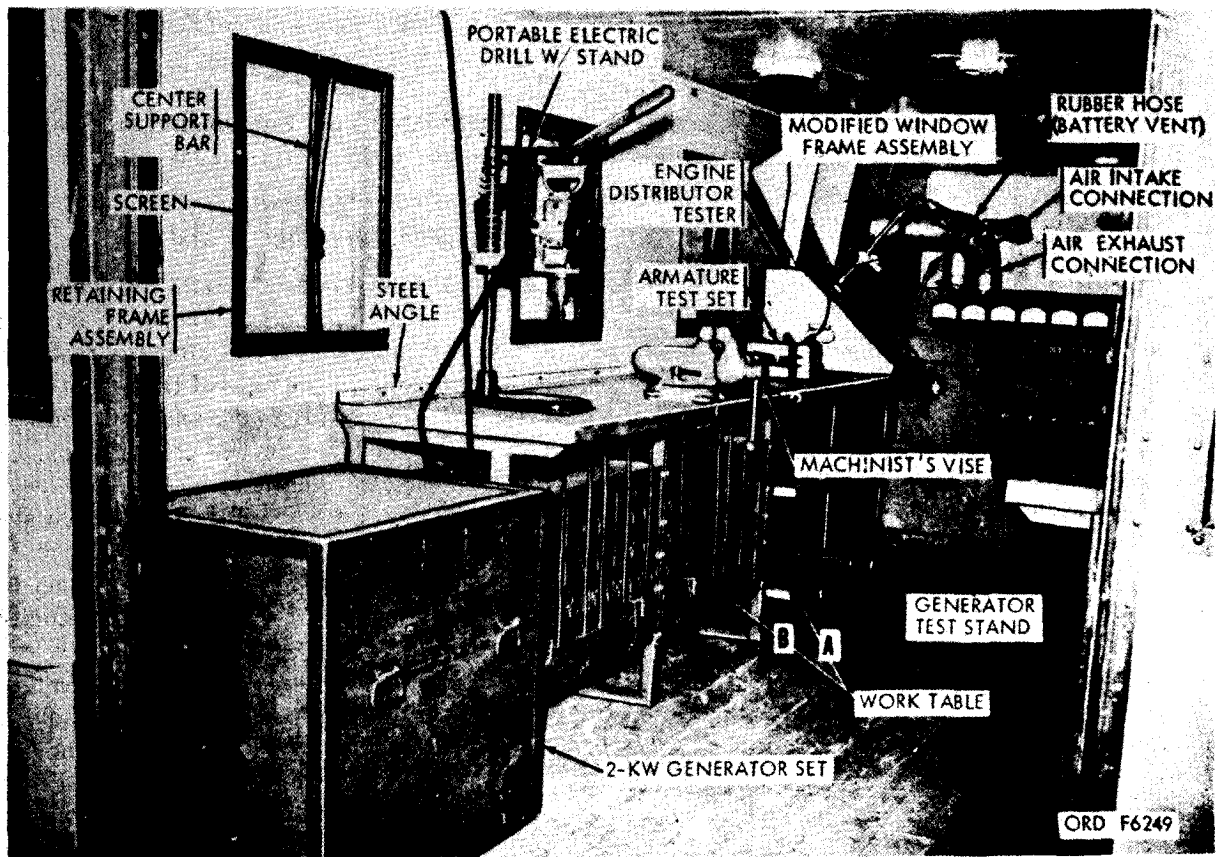
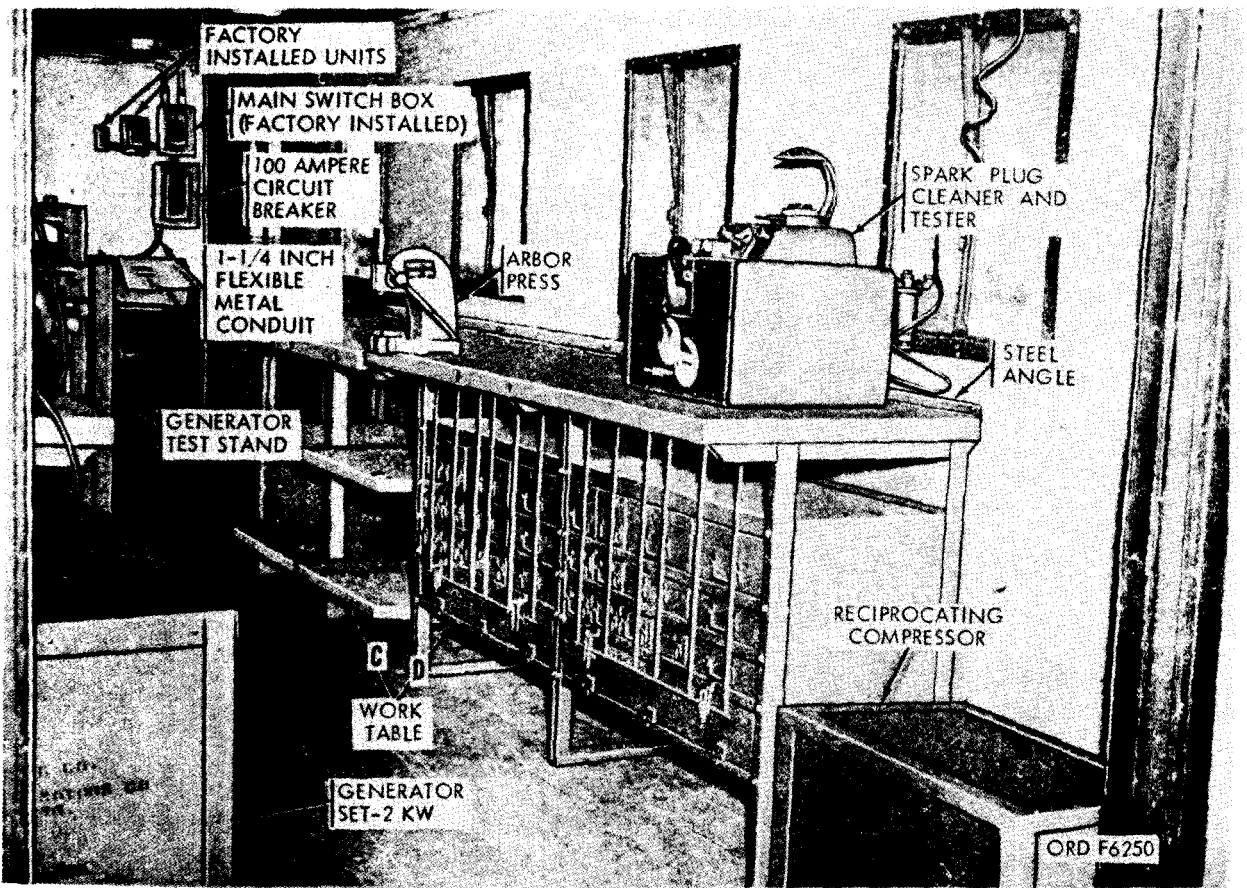

Figure 1. Equipment installed in shop-van semitrailer - front and left side view.
Figure 2. Equipment installed in shop-ran semitrailer - front and right side view.
Volts Power Circuit. *a.* Installation of the 100 Ampere Circuit Breaker 5925-242-2266 (figs. 2 and 3).
b. Installation of the 4-Wire 100 Ampere Electrical Receptacle Connector 5935-642-1694 (figs. 2 and 3).
- (1) Disconnect the two wires of the 2-wire 110 volt electrical receptacle connector (located on the outside wall of the trailer) from the top terminals in the main switch box. Remove and discard the wires and the 2-wire 110 volt electrical receptacle connector.
- (2) Cut three pieces of No. 4 AWG electrical wire 6145-635-0047 and one piece of No. 6 AWG electrical wire 6145-299-4398 each 80 inches long. Strip ½-inch of insulation from both ends of each wire. Solder one end of the No. 6 AWG electrical wire to the pole of the 4-wire 100 ampere electrical receptacle connector 5935-642-1694 marked "ground". Solder one end of each No. 4 AWG electrical wire to each one of the three remaining poles.
- (3) Install the 4-wire 100 ampere electrical receptacle connector in the place previously occupied by the 2-wire 110 volt electrical receptacle connector, (1) above. Work the four wires of the receptacle connector up between the inside and outside walls of the trailer and through the 1½-inch hole drilled in the inside wall, *a(3)* above, and into the box of the 100 ampere circuit breaker.
- (4) Connect the three No. 4 AWG electri-
- (1) *Mounting (figs. 1 and 2).*
(a) Unscrew the 18 screws from the retaining frame assembly and remove the retaining frame assembly and screen (fig. 1) from the front left hand trailer window (next to the test stand). Save the screen and discard the retaining frame assembly and screws.
(c) Lay the window frame assembly down flat on a bench or table and unscrew the 23 screws from the inside frame and remove the inside frame from the outside frame (fig. 5). Remove the two rivets from the center support bar (fig. 1) and remove it from the outside frame. Discard the center support bar and rivets.
- (k) Use two 6-inch elbows 4520-272-8661 on the exhaust connection (fig. 1) and one 6-inch elbow on the air intake connection (fig. 1). Cut the two 24-inch lengths of heating pipe 4520-273-1243 as required to effect a properly alined connection from the test stand to the modified window frame assembly (fig. 1). Fabricate the smooth end of each pipe by cutting the end in segments and bending every other segment over forming ears as shown in figure 6. Assemble the heating pipes and elbows on the test stand and in the window frame assembly. Drill a $\frac{5}{64}$ -hole in four ears of the pipe to match with the holes in the window adapter plate (fig. 6). Secure each pipe to the window adapter plate with four No. 2-32 x $\frac{1}{4}$ -inch pan head thread forming tapping screws 5305-012-7847.
Install one end of the rubber hose (fig. 1) on the battery vent outlet in the top of the test stand and the other end on the pipe nipple in the window adapter plate (fig. 5). Slide each hose clamp in place and tighten securely.
(a) Connect a 10 foot length of 1¼-inch flexible metal conduit 5975-178-1225 (figs. 2 and 3) to the box of the 100 ampere circuit breaker (figs. 2 and 3) using the 1¼-inch electrical box connector 5975-280-7196 previously installed (par. 3a(2)).
b. *Work Tables 4910-543-7771 and 4910-543-7772* (figs. 1 and 2).
- (1) There are four work tables to be installed in the shop-van semitrailer. Two work tables 4910-543-7772 are designated as A and C, and two work tables 4910-543-7771 are designated as B and D to clarify locating and subsequent mounting of equipment.
- (2) Place work table (B) against the left wall and 38 inches from rear of trailer. Place work table (D) against the right wall and 31 inches from the rear of the trailer. Place work table (A) against the left wall and flush against the right end of work table (B). Place work table (C) against the right wall and flush against the left end of work table (D). Using the mounting holes in the table legs as template, mark and drill six $\frac{3}{8}$ -inch holes through the trailer floor for each table. Secure each table to the floor with six $\frac{5}{16}$ -18 x 2-inch hexagon head machine bolts 5306-208-1559, six $\frac{7}{16}$ -inch inside diameter rectangular flat washers 5310-209-0061 (use on underside of trailer floor), six $\frac{1}{32}$ -inch inside diameter flat washers 5310-050-2246, six $\frac{5}{16}$ -inch split lock washers 5310-012-0214, and six $\frac{5}{16}$ -18 hexagon plain nuts 5310-012-4824.
- (3) Cut two pieces of 2-inch steel angle 9520-277-4913, 131 inches long. Place a 131-inch length of steel angle on top of tables (A) and (B) (fig. 1) and a 131-inch length on top of tables (C) and (D) (fig. 2). Push the steel angle back against the wall of the trailer and flush against the table tops. Mark and drill four $\frac{1}{16}$ -inch holes through each 131-inch length to match the two $\frac{5}{8}$ -11 nuts that are factory installed in each table top. Secure each 131-inch length to the table tops with four $\frac{5}{8}$ -11 x $\frac{3}{4}$ -inch hexagon head cap screws 5305-022-3518, four $\frac{5}{8}$ -inch split lock washers 5310-010-3331, and four
c. *Portable Electric Drill w/Stand 5130-204-271 8* (fig. 1). Place the portable electric drill and stand on work table (B). Position the base of the stand 5 inches from the front edge and 10 inches from the left end of the table top. Using the mounting holes in the base of the stand as a template, mark and drill four $\frac{1}{32}$ -inch holes through the table top. Secure the stand to the table top with four $\frac{5}{16}$ -18 x $2\frac{1}{2}$ -inch square neck bolts 5306-012-6652 (a $\frac{5}{16}$ x $4\frac{1}{2}$ -inch square neck bolt 5306-013-1300 is required for some stands), four $\frac{11}{32}$ -inch inside diameter flat washers 5310-050-2246, four $\frac{5}{16}$ -inch split lock washers 5310-012-0214, and four $\frac{5}{16}$ -18 hexagon plain nuts 5310-012-4824.
d. *Machinist's Vise 5120-293-1439* (fig. 1). Place the machinist's vise on work table (B). Position the base of the vise $32\frac{1}{4}$ inches from the left end and $2\frac{1}{4}$ inches from the front edge of the table top. Using the mounting holes in the base of the vise as a template, mark and drill four $1\frac{7}{32}$ -inch holes (some vise require 3 holes) through the table top. Secure the vise to the table top with four $\frac{1}{2}$ -13 x $3\frac{1}{2}$ inch square neck bolts 5306-010-9141, four $1\frac{7}{32}$ -inch inside diameter flat washers 5310-012-0396, four $\frac{1}{2}$ -inch split lock washers 5310-012-0384, and four $\frac{1}{2}$ -13 hexagon plain nuts 5310-012-0378.
e. *Armature Test Set 6625-238-1459* (fig. 1). Place the engine distributor tester on work table (A). Position the tester 14 inches from the left end and 8 inches from the front edge
f. Engine Distributor Tester 4910-392-2939 (fig. 1). Place the engine distributor tester on work table (A). Position the tester 4 inches from the right end and flush with the front edge of the table top. Using the mounting holes in the base of the tester as a template, mark and drill four $\frac{3}{8}$ -inch holes through the table top. Secure the tester to the table top with four $\frac{3}{8}$ -16 x $2\frac{1}{2}$ -inch square neck bolts 5306-010-9117, four $1\frac{1}{32}$ -inch inside diameter flat washers 5310-012-0394, four $\frac{3}{8}$ -inch split lock washers 5310-012-0381, and four $\frac{3}{8}$ -16 hexagon plain nuts 5310-655-9372.
g. Spark Plug Cleaner and Tester 4910-261-5868 (fig. 2). Place the spark plug cleaner and tester on work table (D). Position the base of the cleaner 6 inches from the front edge and 4 inches from right end of the table top. Using the mounting holes in the base of the tester as a template, mark and drill four $\frac{9}{32}$ -inch holes through the table top. Secure the tester to the table top with four $\frac{1}{4}$ -20 x $2\frac{1}{2}$ -inch square neck bolts 5306-010-9095, four $\frac{9}{32}$ -inch inside diameter flat washers 5310-059-4261, four $\frac{1}{4}$ -inch split lock washers 5310-010-3319, and four $\frac{1}{4}$ -20 hexagon plain nuts 5310-012-4818.
h. Arbor Press 3444-248-2654 (fig. 2). Place the arbor press on work table (D). Position the base of the press 4 inches from the left end with the base extending 2 inches beyond the front edge of the table top. Using the mounting holes in the base of the press as a template, mark and drill two $1\frac{1}{32}$ -inch holes through the table top. Secure the press to the table top with two $\frac{5}{16}$ -18 x $3\frac{1}{2}$ -inch square neck bolts 5306-010-9108, two $1\frac{1}{32}$ -inch inside diameter flat washers 5310-050-2246, two $\frac{5}{16}$ -inch split lock washers 5310-012-0214, and two $\frac{5}{16}$ -18 hexagon plain nuts 5310-012-4824.
240-0393 (figs. 1 and 2). Stow the compressor and the generator set in space of semitrailer as instructed in paragraph **2c** and in such a manner as to avoid damage in transit.